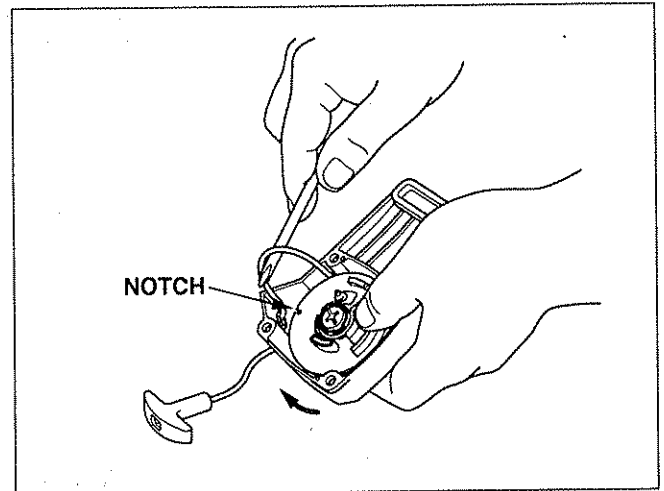

Fig. 9-1
- (1) Remove the recoil starter from the engine.
- (2) Pull out the starter knob, hold the rotary reel with your thumb as shown in Figure 9-1 when the reel notch gets aligned with the starter rope outlet, and pull the starter rope to inside the recoil starter with a screwdriver. Hook the starter rope to the notch, and rewind the reel to the arrow direction until it stops, by controlling the rotation of the reel with your thumb.
- (1) Pull the starter knob a few times to check if:
- (2) Pull out the starter knob to extend the rope to its extreme to see if:
- A. The starter rope still remains in the rope slot of the reel, unwind the rope by 1 to 2 turns as shown in Fig. 9-1, as the spring may be over-stressed.